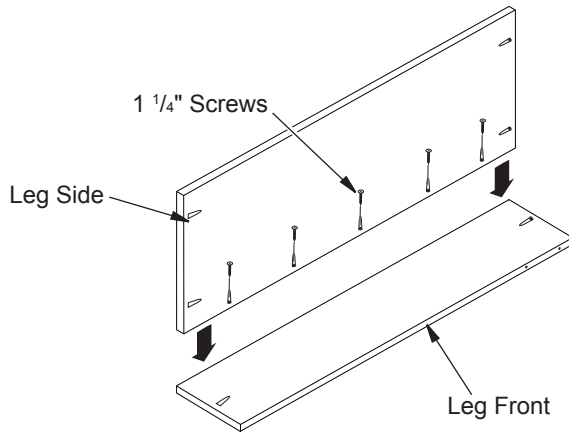

Figure 1 - Assembling Legs
1. Some models require side/corner assembly. For these models, lay leg front on soft cloth on floor. Position leg as shown in Figure 1. Align bottom and attach with 1 1/4" screws through pocket holes. Repeat for other side.